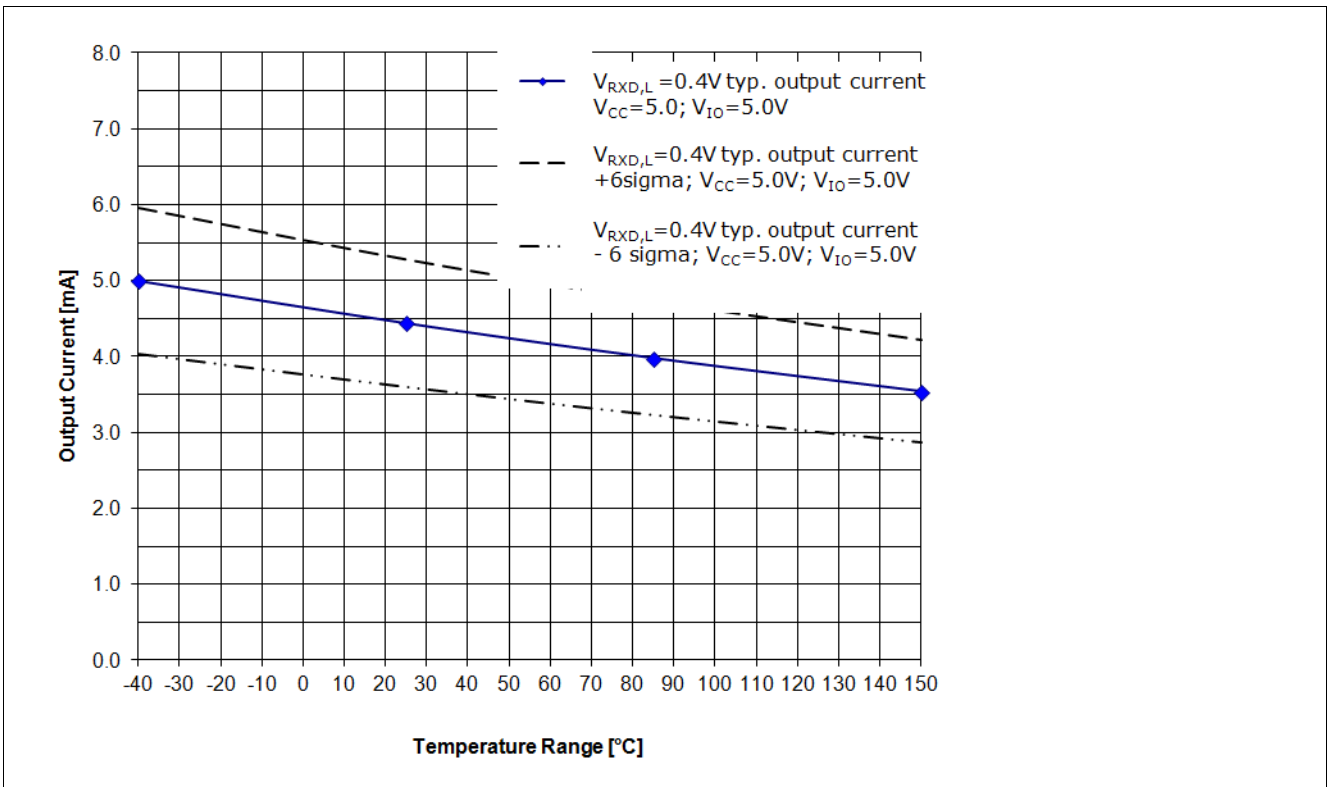
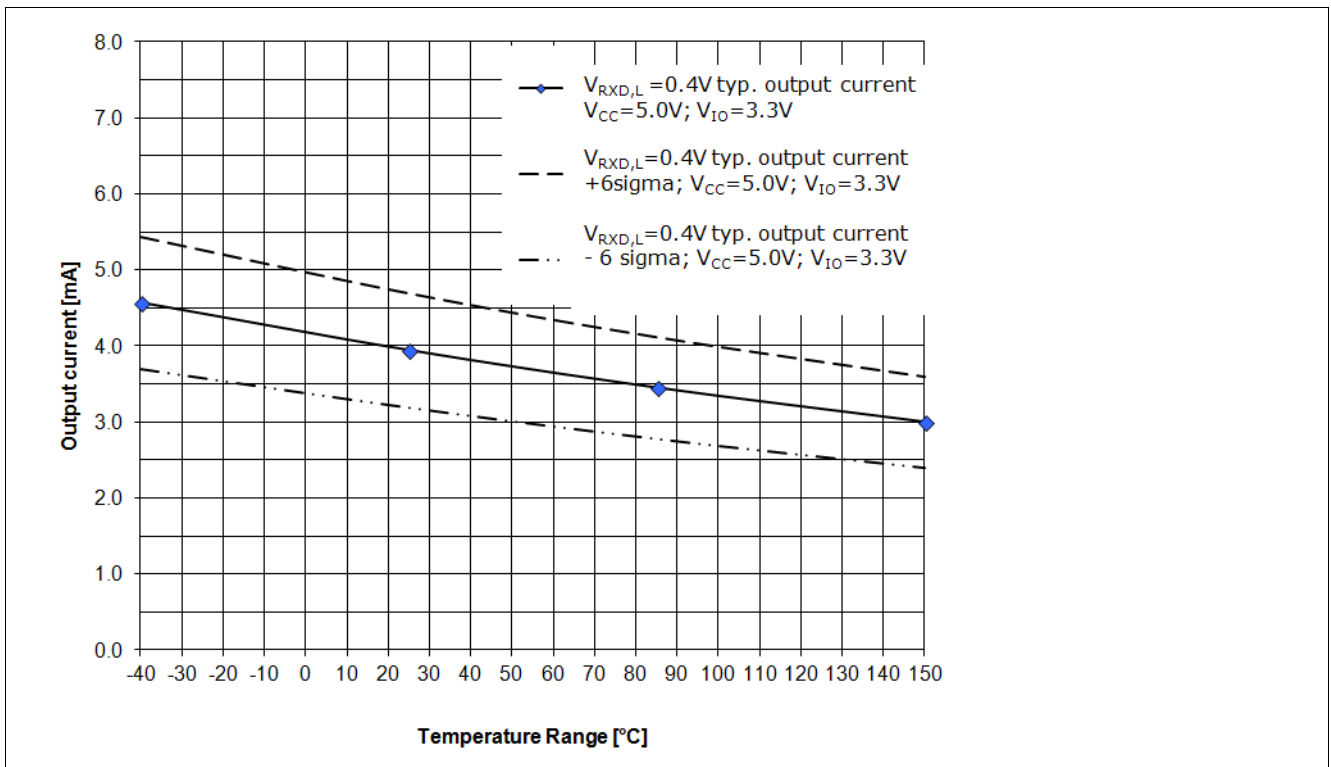

Figure 13 RxD Output driver capability for a logical “Low” signal $V_{\text{RxD,H}}=0.4\text{ V}$, $V_{\text{CC}}=5.0\text{ V}$, $V_{\text{IO}}=5.0\text{ V}$ ¹⁾
Figure 14 RxD Output driver capability for a logical “Low” signal ($V_{RxD,H}=0.4\text{ V}$, $V_{CC}=5.0\text{ V}$, $V_{IO}=3.3\text{ V}^1$)
The diagram in Figure 13 and the diagram in Figure 14 show the current capability of the RxD output pin depended on the chip temperature T_J . Figure 13 shows the current capability of the RxD output pin at a V_{IO} power supply of 5.0 V and Figure 14 shows the current capability of the RxD output pin at a V_{IO} power supply of 3.3 V.
- The curve “VRxD,H = 0.4 V; **typ. output current**; VCC = 5.0 V; VIO =5.0 V;” displays the typical output current at the RxD output pin of the TLE8250GVIO (see Figure 13).
- The curve “VRxD,H = 0.4 V; **typ. output current + 6 sigma**; VCC = 5.0 V; VIO =5.0 V;” displays the expected maximum value of the output current at the RxD output pin (see Figure 13).
- The curve “VRxD,H = 0.4 V; **typ. output current - 6 sigma**; VCC = 5.0 V; VIO =5.0 V;” displays the expected minimum value of the output current at the RxD output pin (see Figure 13).
- The curve “VRxD,H = 0.4 V; **typ. output current**; VCC = 5.0 V; VIO =3.3 V;” displays the typical output current at the RxD output pin of the TLE8250GVIO (see Figure 14).
- The curve “VRxD,H = 0.4 V; **typ. output current + 6 sigma**; VCC = 5.0 V; VIO =3.3 V;” displays the expected maximum value of the output current at the RxD output pin (see Figure 14).
- The curve “VRxD,H = 0.4 V; **typ. output current - 6 sigma**; VCC = 5.0 V; VIO =3.3 V;” displays the expected minimum value of the output current at the RxD output pin (see Figure 14).